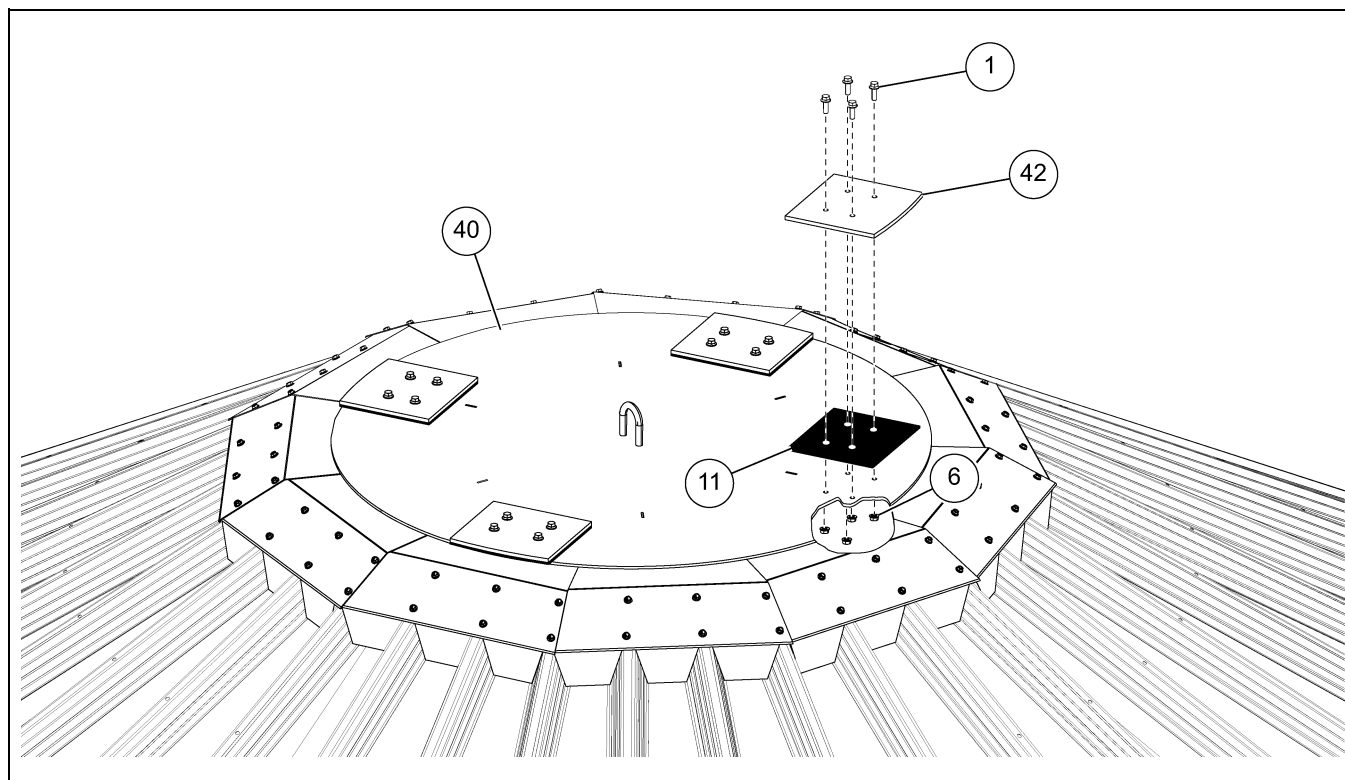

Figure 4AA *Installing the Stand-Off Support Plates*
2. Position one stand-off plate (42) over each gasket (11) and align the holes.
3. Install 3/8" x 1-1/2" flange bolts (1) and 3/8" flange nuts (6) to secure the stand-off plates (42) and gaskets (11) with the center cap plate (40) and the roof flashing. (See Figure 4AA.)